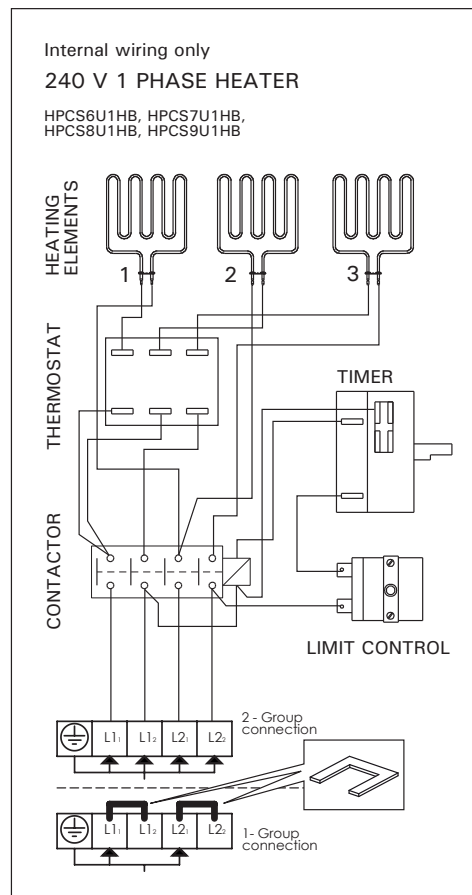

Figure 6. Electrical connections of the heater
2. See applicable wiring diagram for heater model (figure 6). Heater must be permanently installed by using seal tight conduit between the heater and the wall of the sauna room (pigtails or plugs are not allowed in the sauna room). Wiring must be done by a licensed electrician, who must follow wiring diagram provided and adhere to local codes. Use proper AWG rated wire size and use copper wire suitable for 194 °F (90 °C) within sauna walls. Use grounding terminals provided in sauna heater to properly ground the equipment as per NEC and local codes.